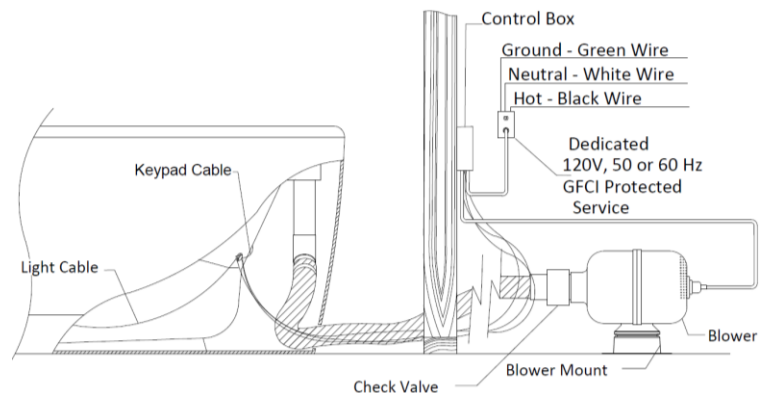

Figure 6a- Above Floor Installation
10. During installation if it is preferred to run the blower hose on top of the floor, a 2-1/2" [6.35cm] diameter hole can be drilled at the bottom of the skirt. A means to cover the hole, hose and wires is not provided. See **Figure 6a**